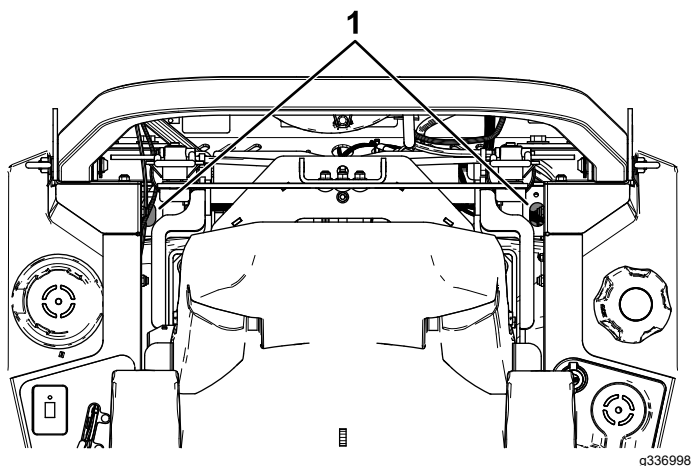

Figure 69
4. Using an extension and 7/16-inch socket, access the vent plug from the top of the machine through the holes near the roll-bar mounts (Figure 69).